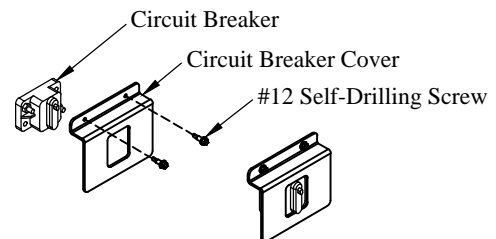

Figure 18: Circuit breaker cover.
17. **Install** the plastic circuit breaker cover over the circuit breaker using the supplied #12 self-drilling screws (Figure 18).